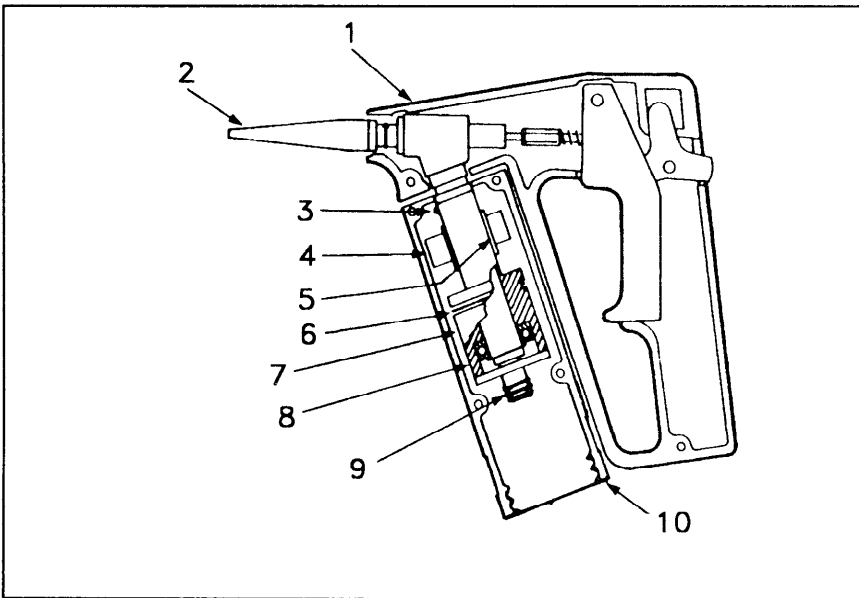

Figure 3.6:
1. Remove the pivot sleeve shells by removing the four screws that hold them together (see Figure 3.6).